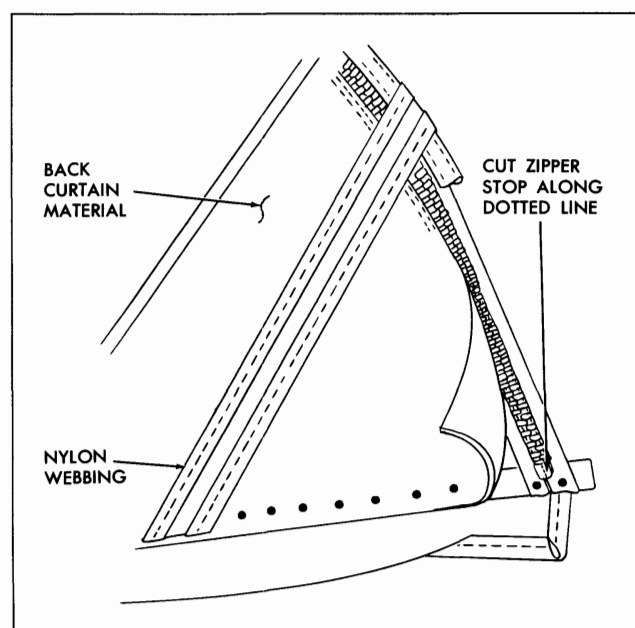

Fig. 21-37 Back Curtain Vinyl Replacement
9. Using a pair of wire cutting shears or other suitable tool, cut zipper stop along dotted line and remove both halves of stop from zipper (Fig. 21-37).
8. Tack nylon webbing to rear trim stick. (Fig. 21-37).